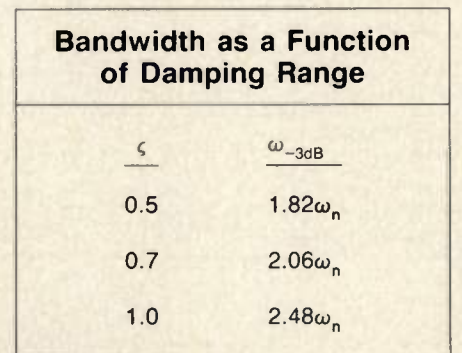
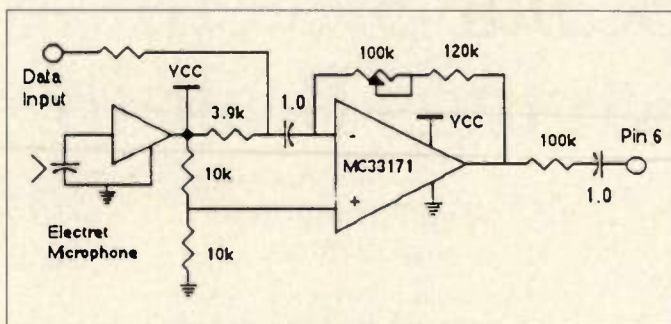

Figure 2b. Loop bandwidth.
Figure 4. Microphone/data amplifier.
The demonstration transmitter is FM modulated with voice and data via a summing amplifier to pin 6 as shown in Figure 4. In FM voice and low data rate applications, the loop bandwidth must be narrow enough so that the loop will not cancel out the modulation frequency components. The loop bandwidth is related to the natural frequency, ω_n as shown in the table in Figure 2b. For a loop bandwidth of 1 kHz, the natural frequency, ω_n is 3.05 krad/sec for a damping factor, δ of 0.707 (3).